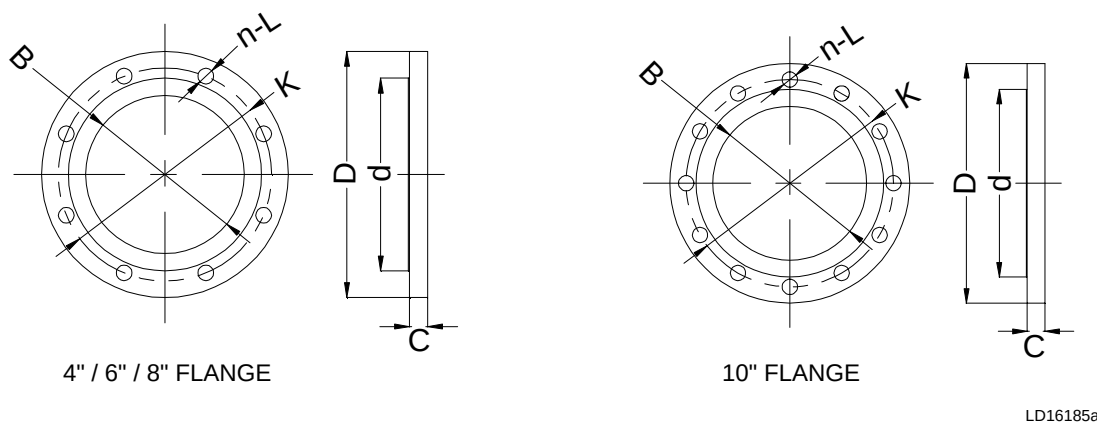

FIGURE 34 - FLANGE FOR GB VESSELS
Standard chilled liquid connections on evaporators are of the Victaulic Groove type for ASME and PED marked units and Flange type for GB marked units (see *Figure 34 on page 63* for flange dimensions on GB marked vessels).
* Reference Figure 34 for flange dimensions.